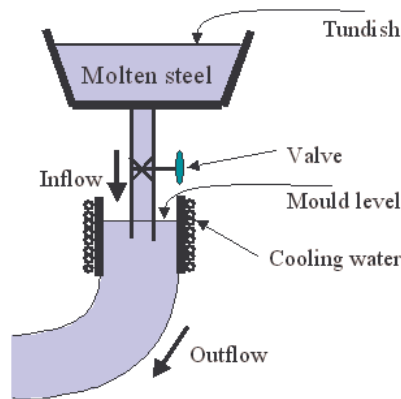
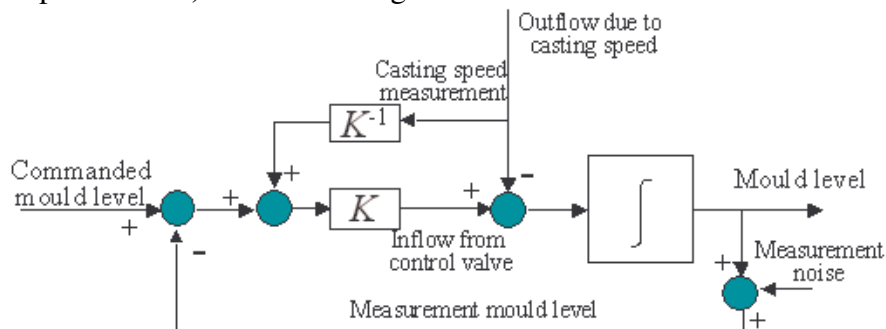

Figure 1. Continuous casting system.
Figure 2. Continuous casting control system (controller + plant model)
The continuous casting system is shown in Fig. 1 and the corresponding control system (controller + plant model) is shown in Fig. 2.
1. Creating a Simulink model from Fig. 2
- d. You will need the following blocks to simulate the system shown in Fig. 2:
- ii. “Gain” blocks for the *feedforward* (K^{-1}) and *feedback* (K) gains can be found in the “Math Operations” section of the library, as can “Sum” blocks for the various summations and subtractions performed on different signals.